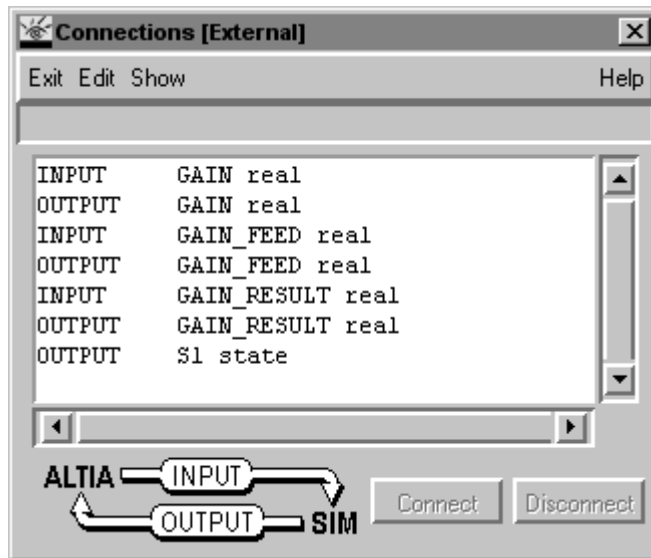

FIGURE 6-12 Connectors of External Signals
- Next, from the **Connections** menu, choose **External Signals...** to open the dialog which will allow us to connect to the available StateMate signals (see Figure 6-12). This window also contains a useful graphic at the bottom to show which directions the input and output signals flow relative to Altia and StateMate.